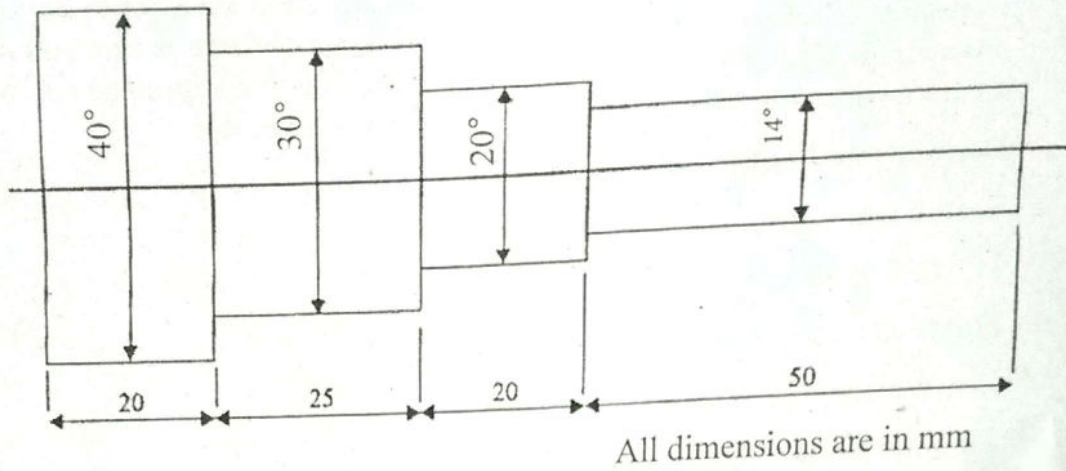

Figure 14 (a)
14. (a) (i) Calculate the net weight and gross weight for the component shown in Fig. 14 (a). Density of material used is 7.86 gm/cc and losses = 25% of net weight. (6)